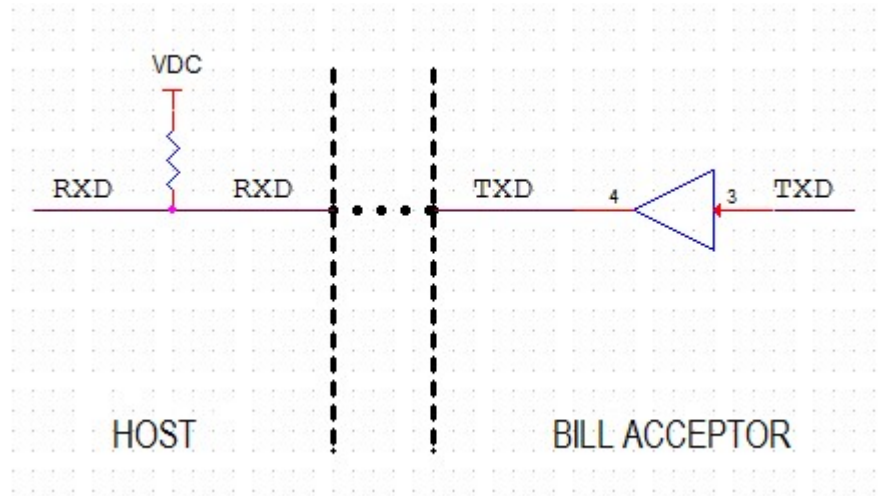

Figure 3.
(2) TTL Interface, See figure 3、4.